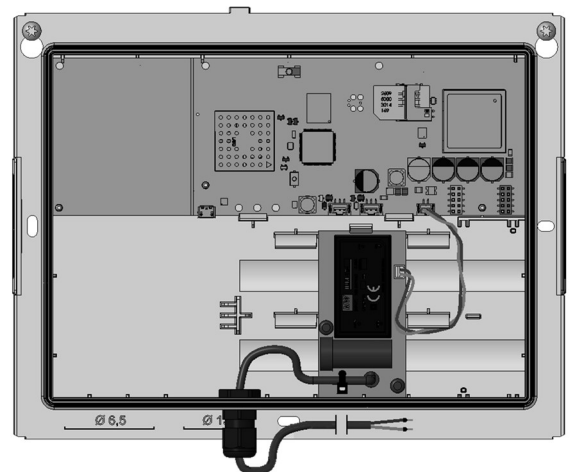

Fig. 4 Gateway inside view
- On the left bottom of the case you will find 2 big predetermined breaking points which can be used for the cable gland (see Fig. 4). Uncover one of the breaking points by pushing the screwdriver against it.
- Plug the bottom of the power pack circuit board into the recess on the inside of the case (see Fig. 4 for the position of the circuit board). Press the circuit board into the case till the safety latch will fix it.